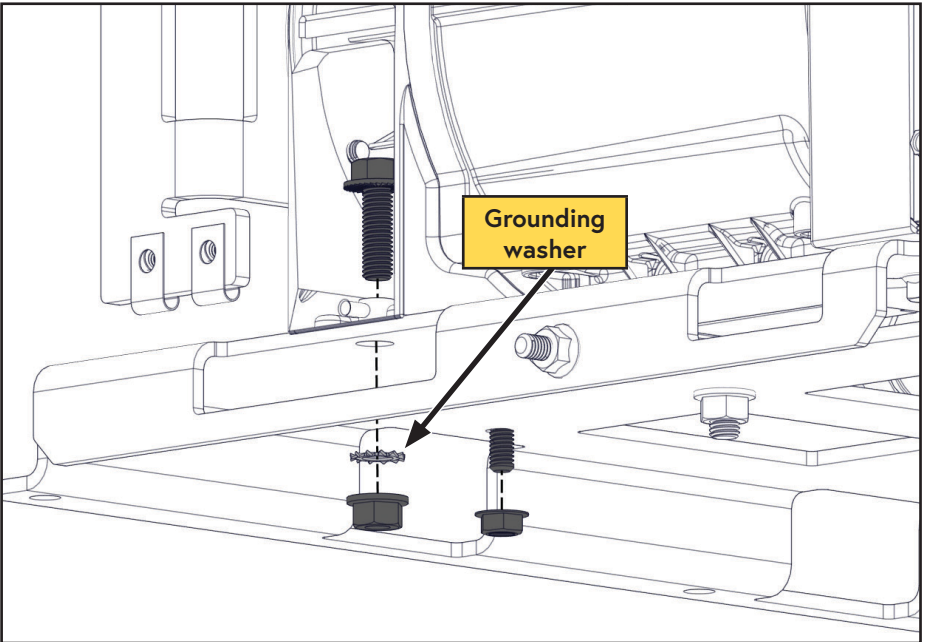

Figure 83 — Remove rear generator fasteners
- Taking note of the location for the star grounding washer, remove the rear generator fasteners (Figure 83).